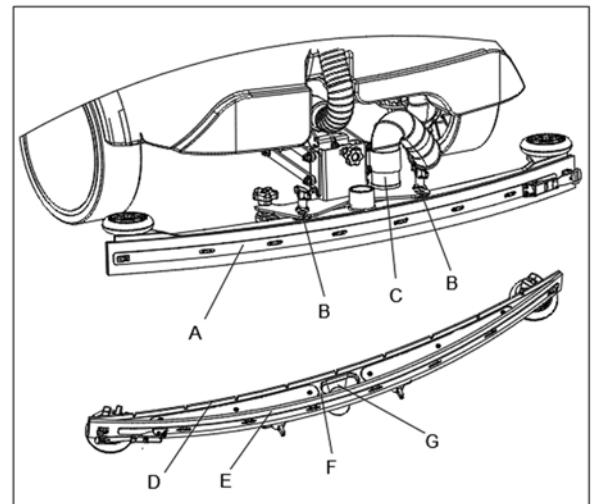

Figure 17
3. Loosen the two knobs (B Figure 17) and remove the squeegee (A).
4. Disconnect the vacuum hose (C) from the squeegee.
5. Clean the steel or aluminum squeegee housing (F Figure 17). Clean the compartments (A) and the hole (G) especially. Check the front blade (D) and the rear blade (E) for integrity, cuts and tears; if necessary replace them (see the procedure in the following paragraph).